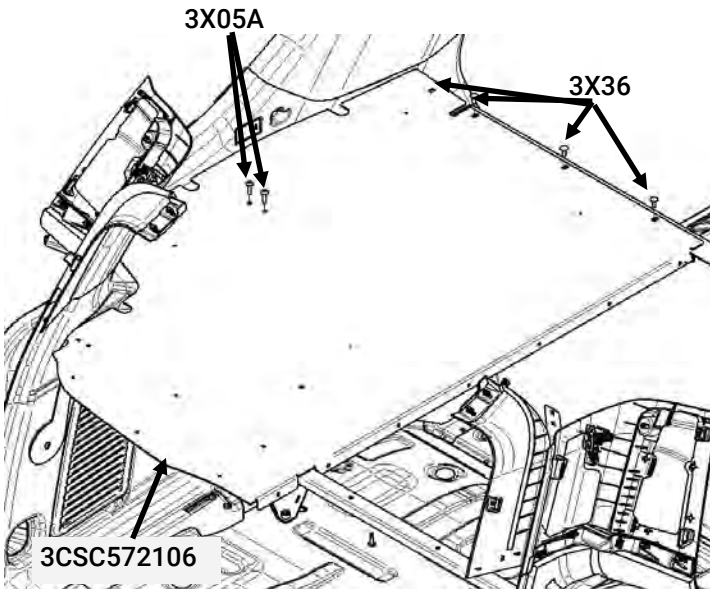

Figure 10
- A. Place the driver side cargo cover panel [3CSC572106] into the vehicle and on top of the previously installed brackets and fasten using (3) carriage bolts [3X36] and nuts [3X16Z] at front panel and (2) 1/4"-20 x 7/8" screws [3X05A] at center supports (Figure 10).